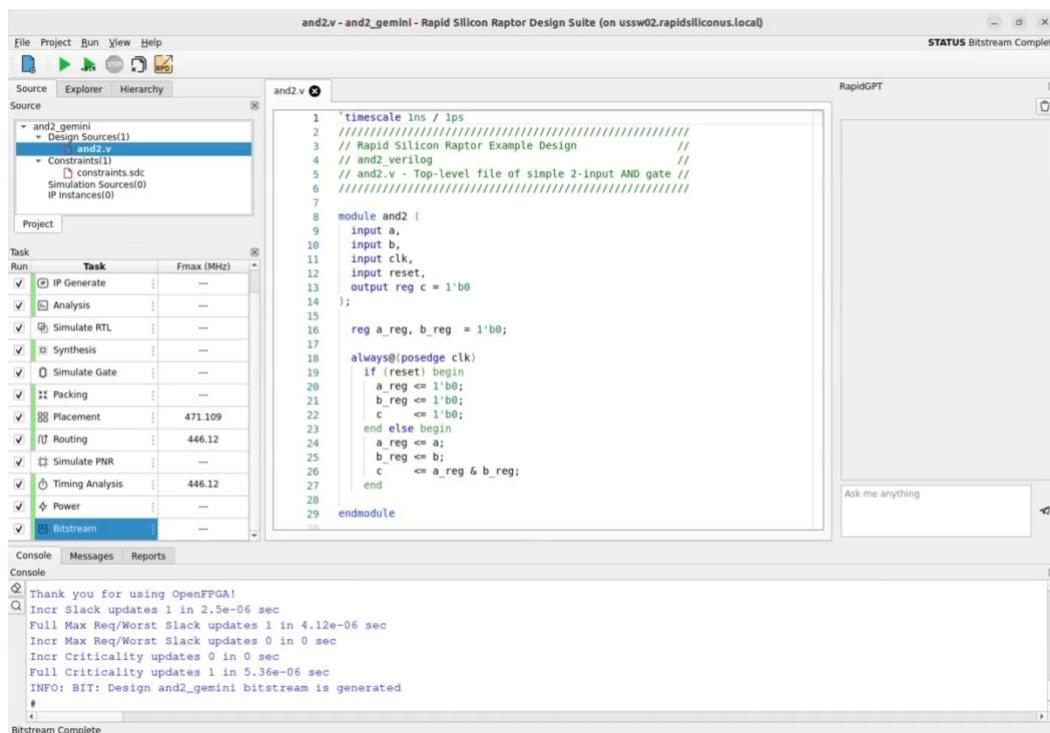

Figure 24. Successful Compilation
15. Successful compilation: Once the compilation is finished, the user will see the bit generation completion message and all status in task view will be green as shown in Figure 24.